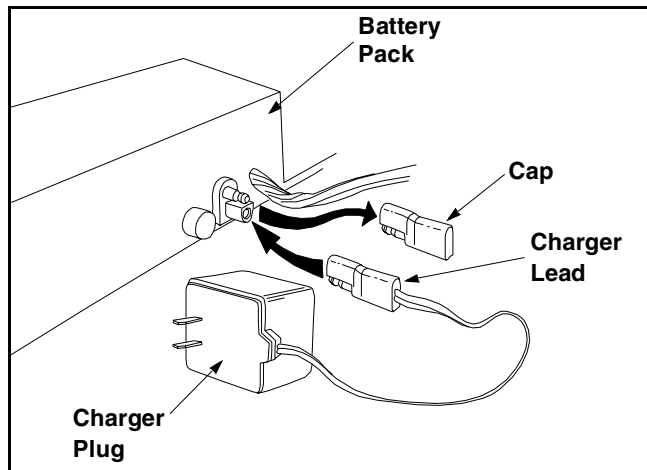

Figure 7
- Remove the protective cap from the end of the battery pack lead. See Figure 7.